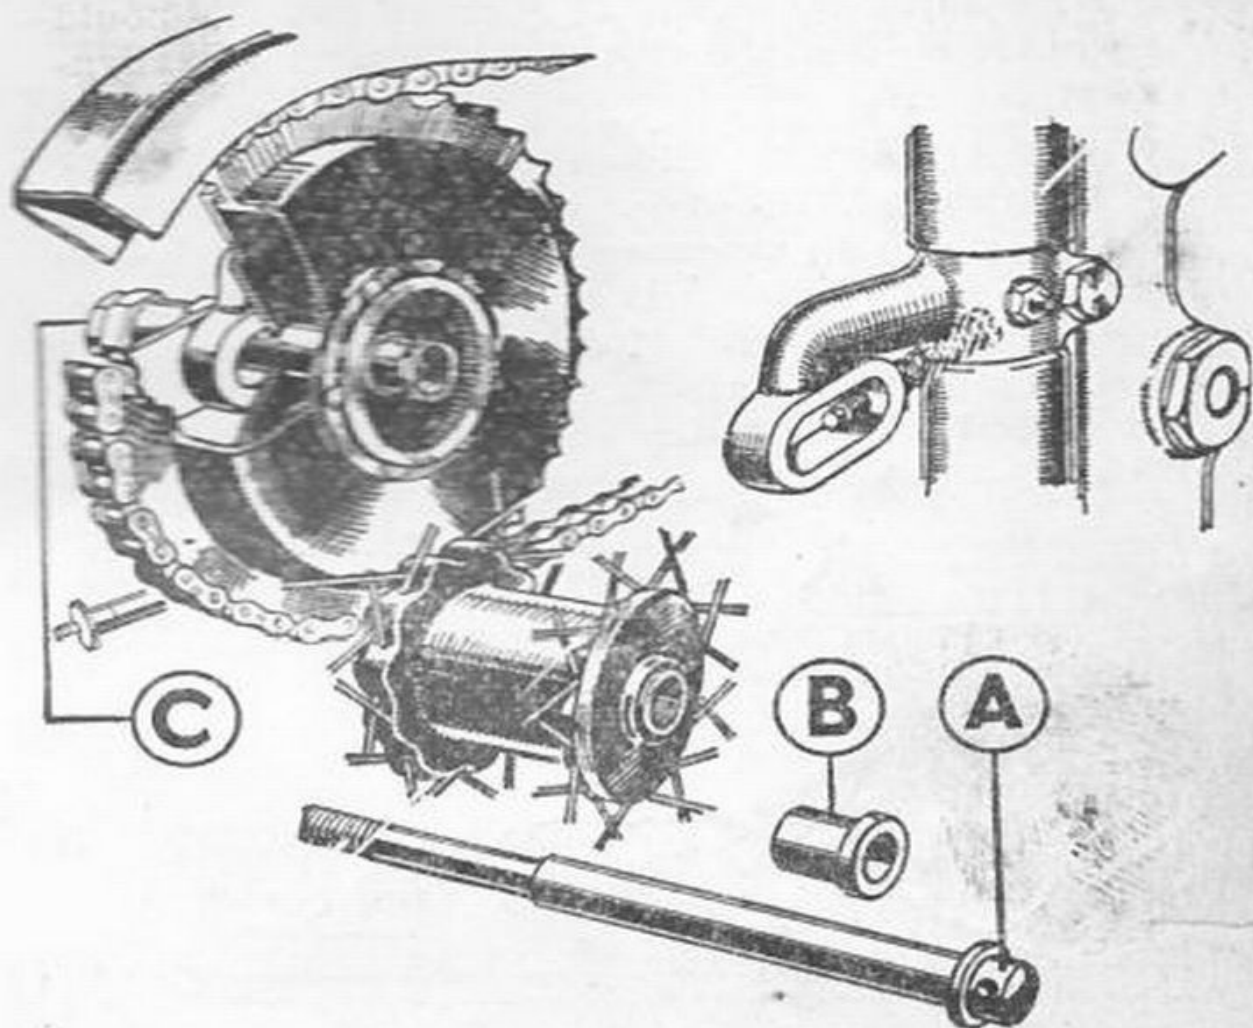

Fig. 21. Rear Wheel Removal
Hold a spanner on the outer hexagon *C*, see Fig. 21.
*Brake assembly.* This involves uncoupling the rear chain and brake rod. Finally unscrew sleeve *C* (Fig. 21).